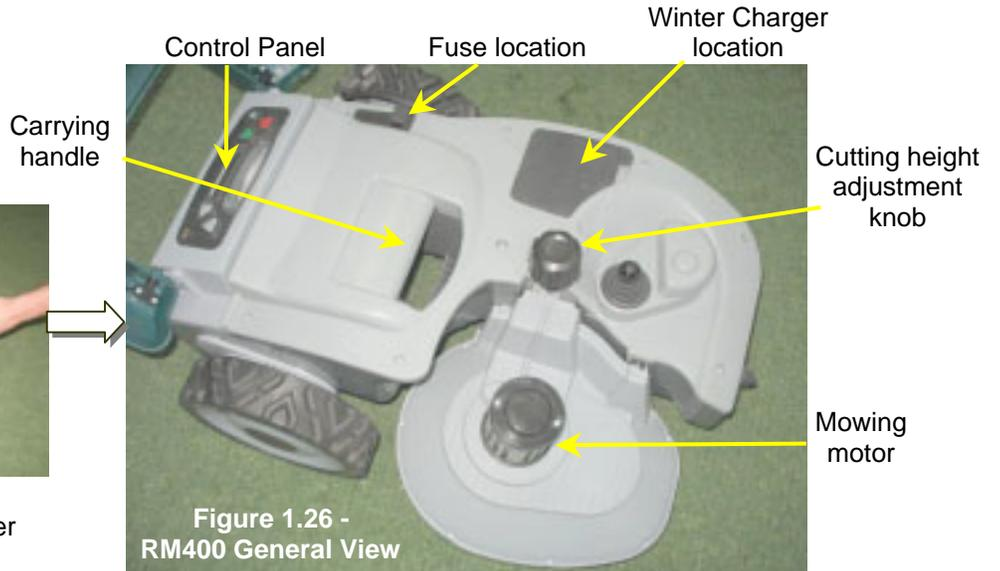

Figure 1.26 -
- To change the cutting height, rotate the cutting height adjustment knob, as shown in figure 1.26.